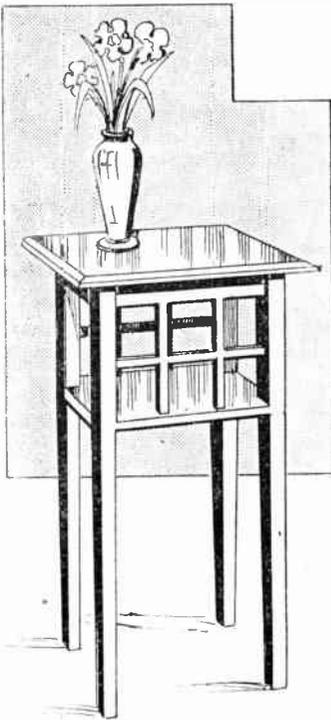

Fig. 1—A handsome little table.
**T**HE neat little hall or side table which we show in Fig. 1 should, for preference, be made of oak, but mahogany or beech or one of the other hardwoods would answer well. There are the usual tapered legs connected at the top by cross rails.